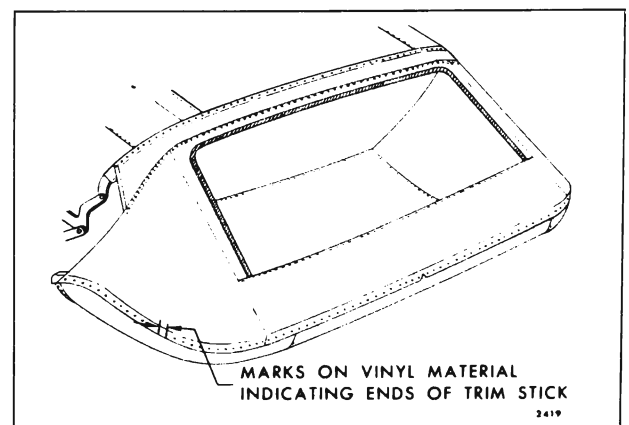

Fig. 13-12 - Marking Back Curtain
29. Using chalk, or other suitable material, mark ends of rear quarter trim sticks on vinyl surface of back curtain material (Fig. 13-12). Reference marks for trim sticks should be transferred to new back curtain material when step 6 of installation procedure is performed.